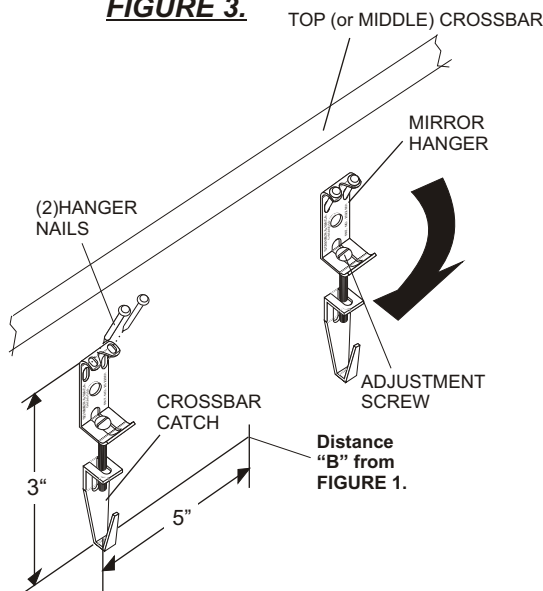

FIGURE 2.
3. (Refer to FIGURE 2) Lift and position where MIRROR will reside on wall surface and with a tape measure, mark distance from floor to the bottom edge of frame with a pencil. Mark should be located at a point representing $\frac{1}{2}$ of mirror width. (Mark "A") **(Please note Quoizel recommends (2) people for this step)**
4. Place the MIRROR on flat surface with back facing you. Measure the distance from the bottom edge to the bottom of TOP CROSSBAR (for 2 CROSSBAR ASSEMBLY or MIDDLE CROSSBAR (for 3+ CROSSBAR ASSEMBLY)). Mark represents Distance "B" FIGURE 2. With tape measure, add this distance to MARK "A" on wall surface and mark with pencil. From MARK "B", measure 5" on each side and mark with pencil. (Distance "C" FIGURE 2). Measure 3" up from end of each 5" distance and mark. These marks are locators for the (2) MIRROR HANGERS. Check for mark straightness with level (optional).